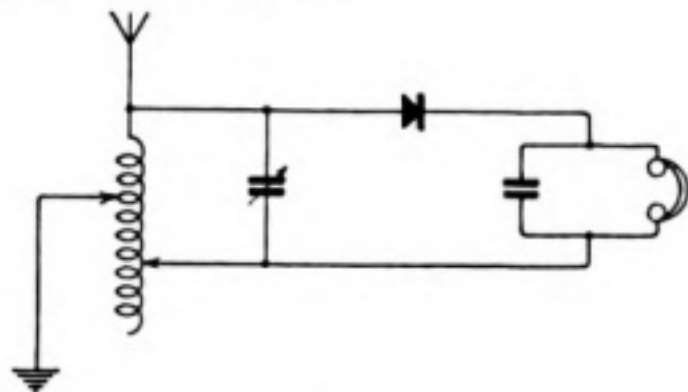

Fig. 6.
(1) See diagram, Fig. 6. We do not know of an Army pattern double slide tuning coil. (2) Crystal detectors cannot be used with indoor frame aerials. (3) Range depends upon the transmitting station and aerial dimensions. You should receive all the European high power spark stations, also some ship